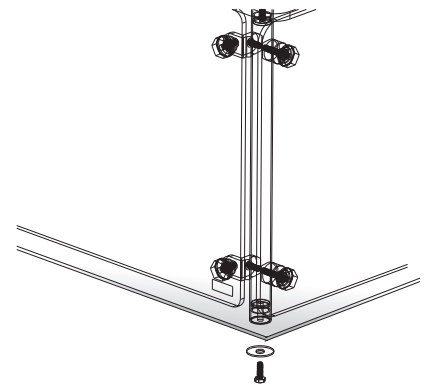

Figure 3. Bolt and washer beneath counter.
- For under counter mounting install with 1/4"-20 bolts and washers from beneath the counter. See Figure 3.